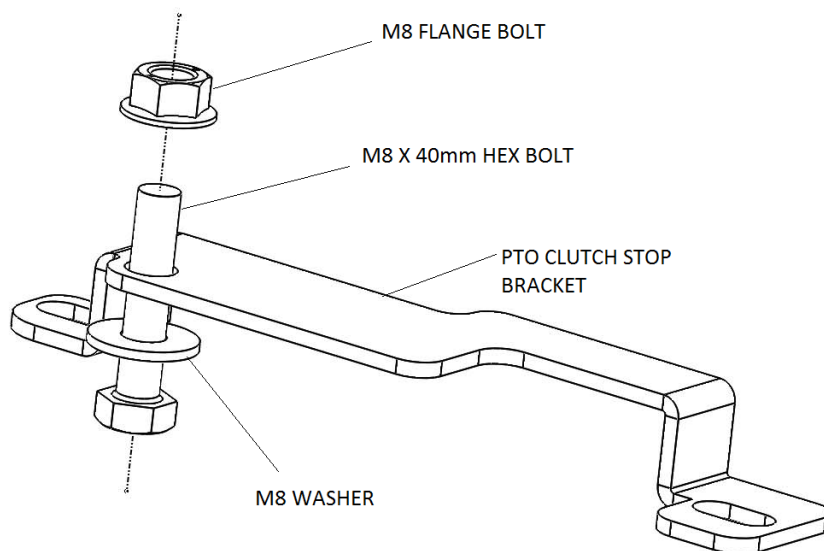

Fig. 2 PTO Clutch stop bracket assembly.
- Assemble the PTO clutch stop bracket(549129800) and M8 x 40 hex bolt/flange nut as shown in Fig.2